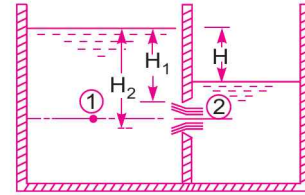

Fig. 7.8 Fully sub-merged orifice.
Fully sub-merged orifice is one which has its whole of the outlet side sub-merged under liquid so that it discharges a jet of liquid into the liquid of the same kind. It is also called totally drowned orifice. Fig. 7.8 shows the fully sub-merged orifice. Consider two points (1) and (2), point 1 being in the reservoir on the upstream side of the orifice and point 2 being at the vena-contracta as shown in Fig. 7.8.